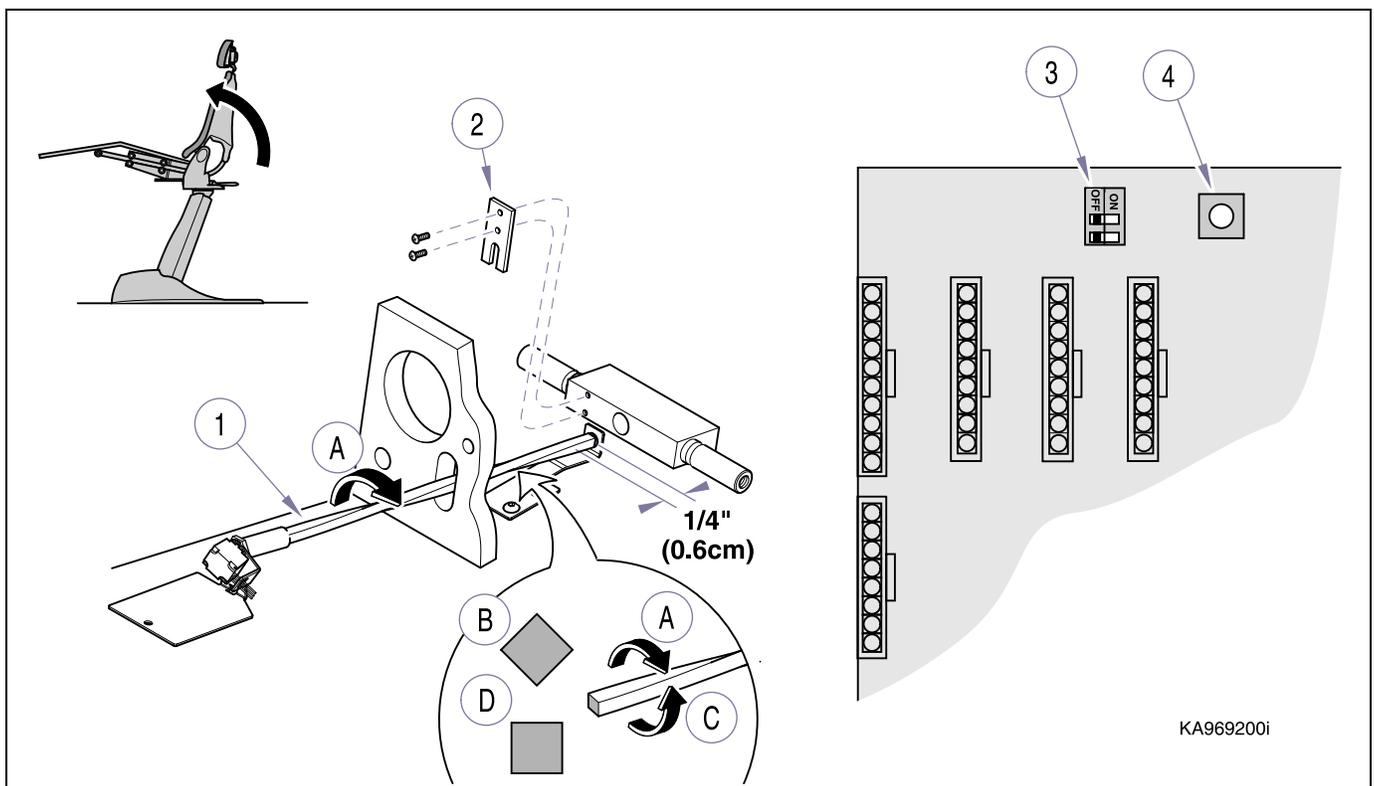

Figure 4-22. Back Potentiometer.
- (1) Plug chair power cord into outlet.
- (2) While holding down Program button on membrane or foot switch, press Back Up directional button, raising back to full up position.
- (3) Rotate sensor shaft (1, Fig. 4-22) Fully Clockwise (A) until it stops, then continue to turn it until the corner (B) of the shaft is facing upward.
- (4) Turn sensor shaft (1) counter-clockwise (C) to the first flat surface (D) and install sensor dog (2), two screws.
- (5) Unplug chair power cord, place SW1 switches (3) both in ON position.
- (6) Press Calibration button (4).